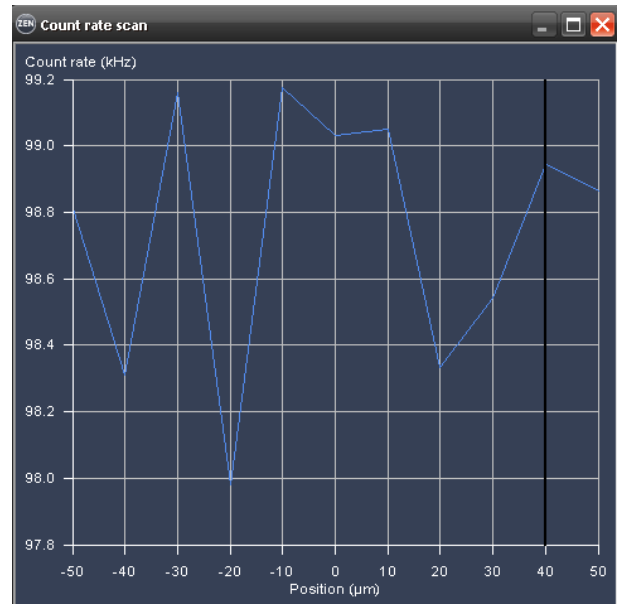

Fig. 9-113 Z scan image
- Press the **xyz-Scan** ConfoCor action button to perform a z scan. The z scan is performed and the measured intensity is displayed in dependence of the Z position (Fig. 9-113). The red line in the diagram shows the actual z position. Peaks (normally 2 from the two lower and upper membranes) show levels of high signal intensity and may correlate to labeled membranes. Note, that if the glass surface happens to be in the z-scan range it will also give a peak. To determine its position, just perform a z scan at a position where there is no cell. If the glass reflection contribute so much that the peaks of the membranes are hidden due to scaling, you have to shorten the lower range end. Place the red line at the peak that corresponds to the membrane to select this z position. Note that z-scan is performed relative to the current position, which will be assigned to 0.